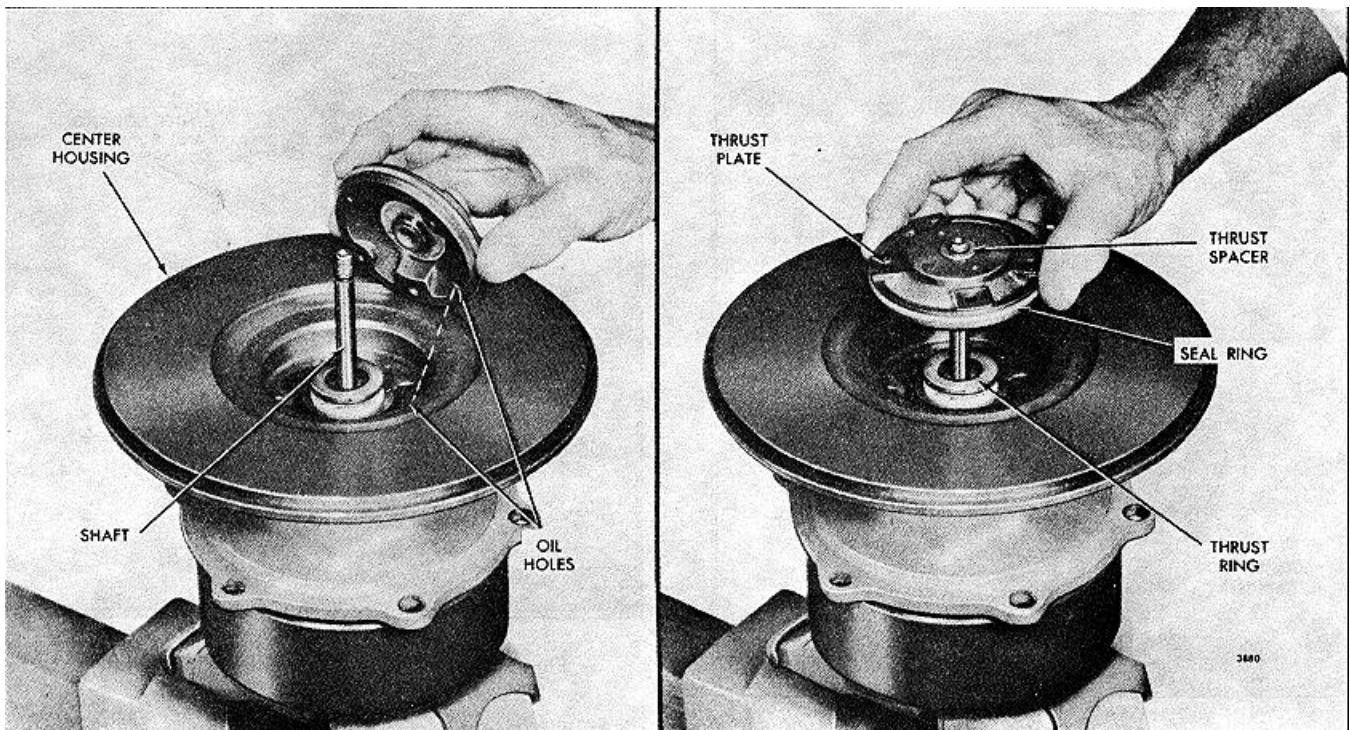

FIG. 30 - Installing Thrust Plate in Center Housing
8. Place the center housing thrust plate, less the thrust spacer and the rubber seal ring, over the shaft, with the bolt holes and the oil hole in the under side of the thrust plate in alignment with the oil and bolt holes in the center housing (Fig. 30).
11. Position the thrust plate, with the thrust spacer and seal ring, over the end of the shaft with the oil holes and bolt holes in the thrust plate and center housing in alignment as shown in Fig. 30. Then place the thrust plate on the shaft and lower it straight down against the center housing, being careful not to let the thrust spacer move up out of the thrust plate.